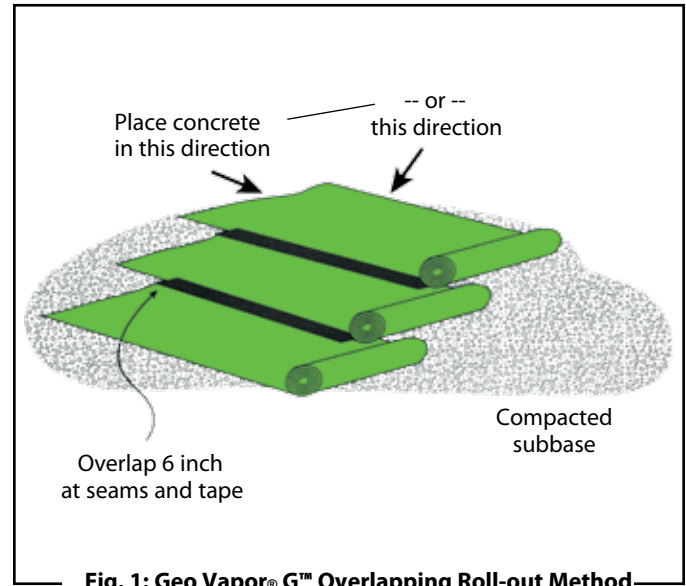

Fig. 1: Geo Vapor® G™ Overlapping Roll-out Method
- Unroll **Geo Vapor® G™** running the longest dimension parallel with the direction of the pour and pull open all folds to full width. (Fig. 1)